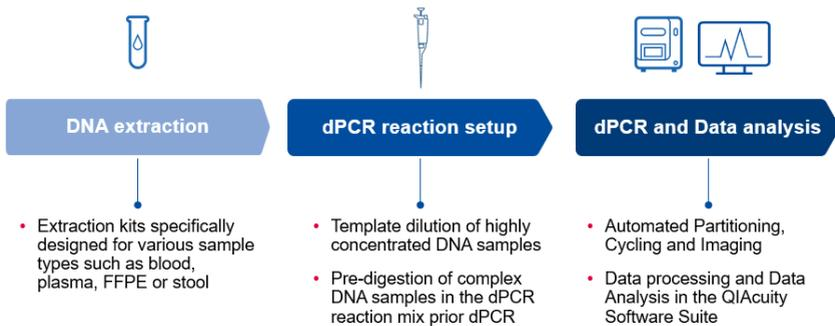

Figure 1. Simplified overview of the workflow.
Various DNA sample preparation products from QIAGEN, coupled with the QIAcuity instrument, offer unique sample-to-insight solutions for quantifying hallmark mutations in BRAF and EGFR. This sample-to-insight workflow involves a straightforward procedure with up to three steps, including (1) the extraction of DNA from various sample types, (2) the preparation of the dPCR reaction mix, and (3) quantification of hallmark mutations in dPCR (see Figure 1).